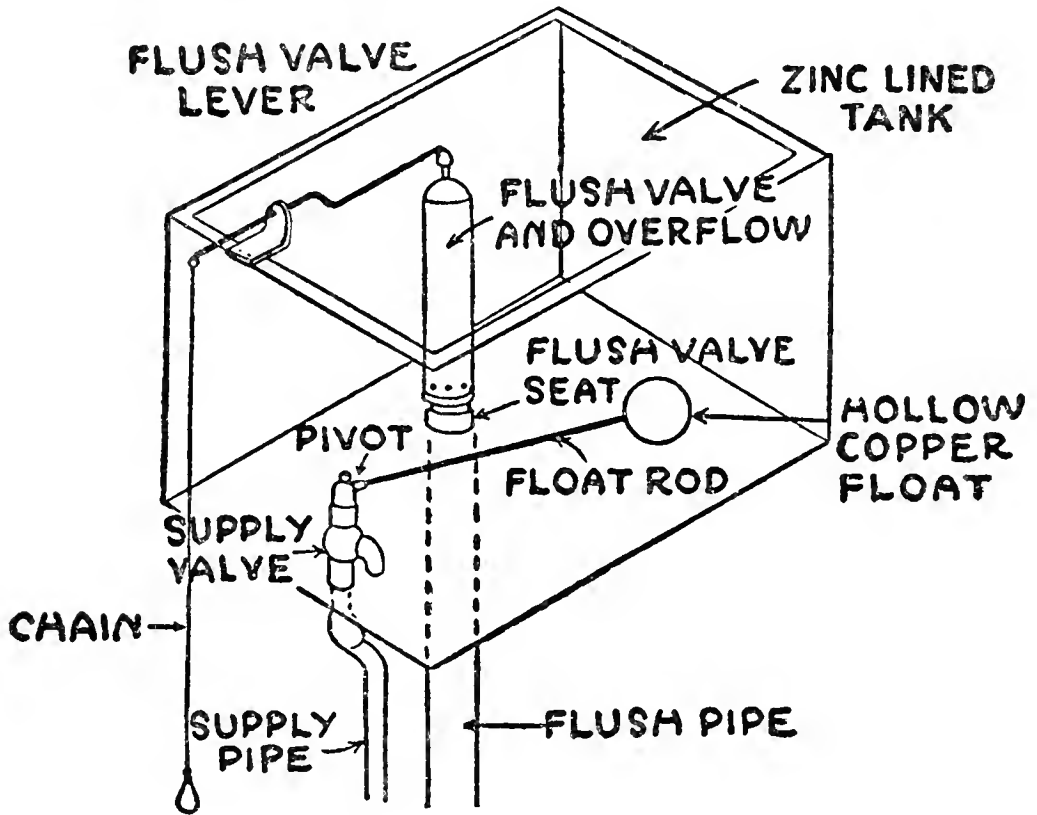

FIG. 45.—The supply tank.
The Mechanism of a Flushing Tank and How to Keep It in Order.—A closet outfit consists of two parts and these are (1) the tank and (2) the bowl. The mechanism of the tank is shown in Fig. 45 and the details of the supply valve and flush valve